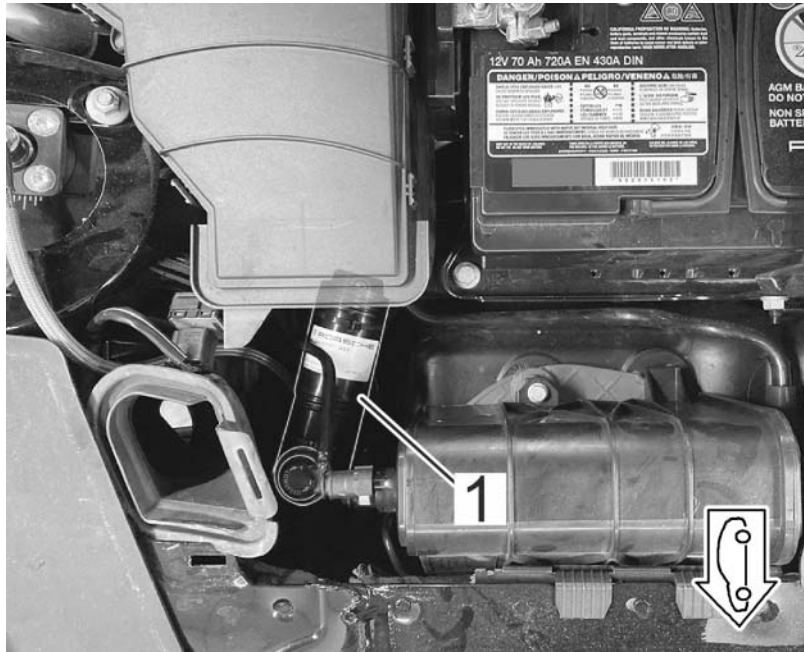

Figure 15.1
13. – To fasten the pressure cell of the right-hand damper, the holder ⇒ *Figure 15-1-* is mounted on the thread ⇒ *Figure 15-2-* shown below the interior pollen filter ⇒ *Figure 15-3-* using the supplied pan-head screw. Fasten the pressure cell to the holder with two cable ties. **Pan-head screw: Tightening torque 23 Nm (17 ftlb.)**
13.1 – The overview shows the pressure cell ⇒ *Figure 15.1 -1-* in the final installed position.